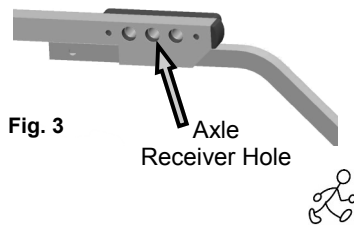

Fig. 3
- Locate the axle receiver hole on either side of the base frame (fig. 3). Insert the axle, with wheel attached, into the center receiver hole until the axle button releases. Repeat procedure on opposite side.